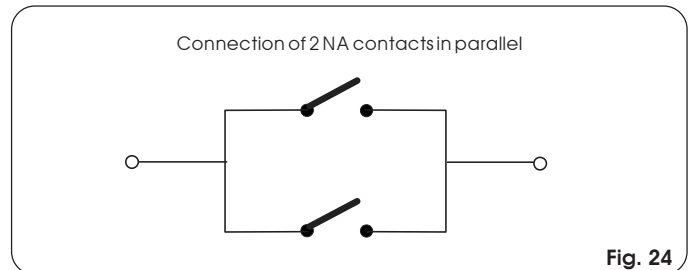

Fig. 24
N.B.: If two devices with N.A. contact have the same function, they must be connected to each other in parallel (Fig. 24).